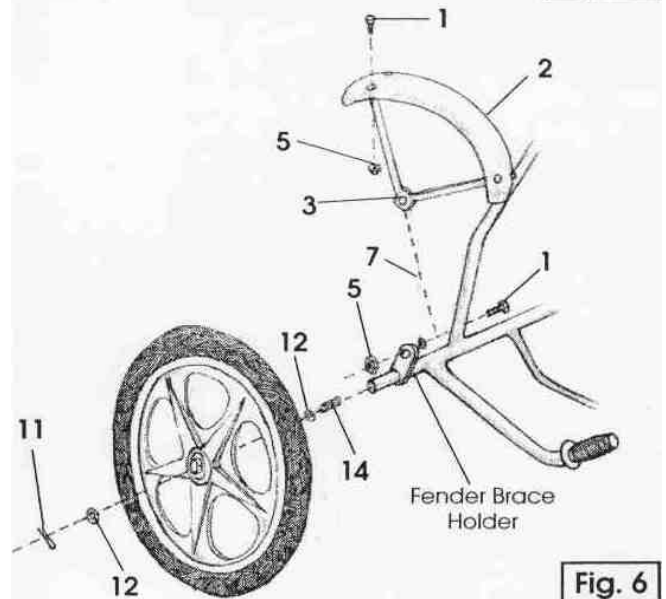

Fig. 6
Slide rear axle springs (14) onto rear axles (see figure 6). Slide washer (12) onto axles, then slide on wheel and secure with washer (12) and cotter pin (11). NOTE: If wheel does not slide freely onto axle, lightly oil and try again. Do not force or pound wheel onto axle; this may damage the bearings in the hub.
Install rear fenders (2) to fender braces (3) with screws (1) and nuts (5) (see figure 6). Install washer (7) and rear fender braces (2) on fender brace holders and insert hex head capscrew (1) from the inside and secure with flange nut (5). Adjust fender position for clearance over tire and tighten. Refer to diagram for correct placement.